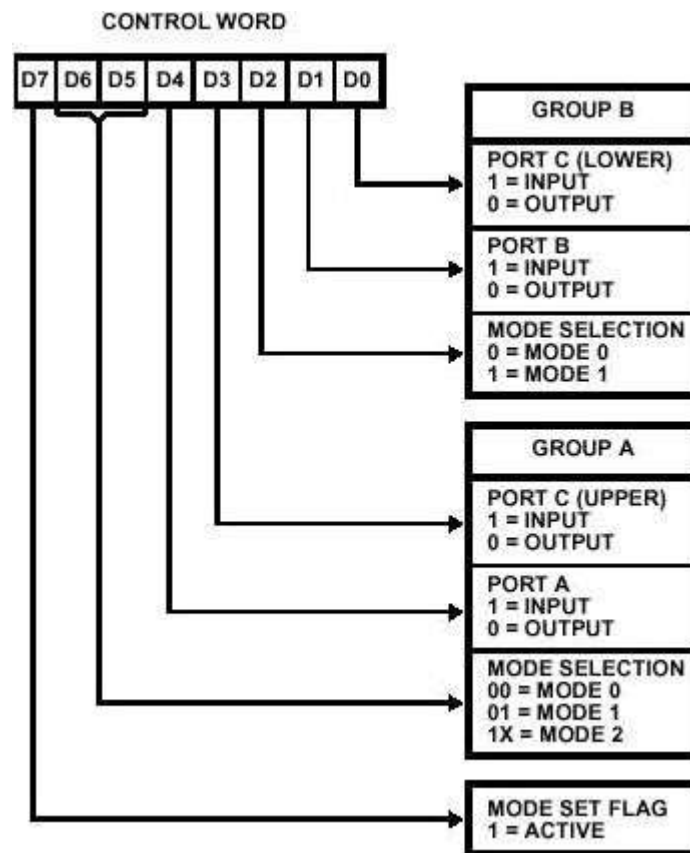

Fig 3.3. Control word Register format
The 8255A has 24 I/O pins that can be grouped primarily in two 8-bit parallel ports: A and B with the remaining eight bits as port C. The eight bits of port C can be used as individual bits or be grouped in to 4-bit ports: CUpper (Cu) and CLower (CL) as in Figure 2. The function of these ports is defined by writing a control word in the control register as shown in Figure 3.3